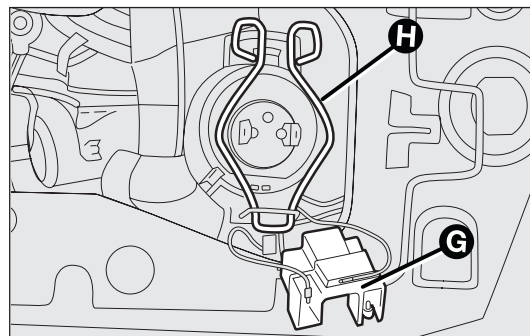

fig. 145
- ☐ remove the connector G-fig. 145;
- ☐ release the bulb-holder clip H-fig. 145;